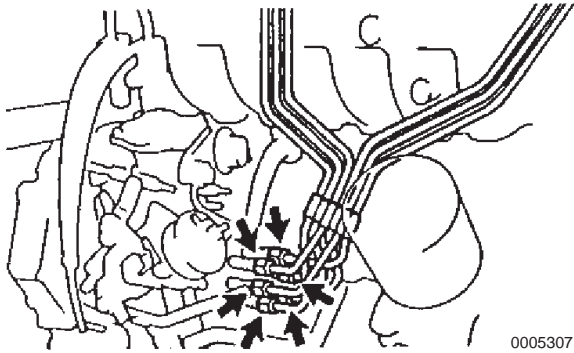

Figure 6-44
5. Install the fuel injection pipe to the fuel injection nozzle and fuel injection pump (**Figure 6-44**).